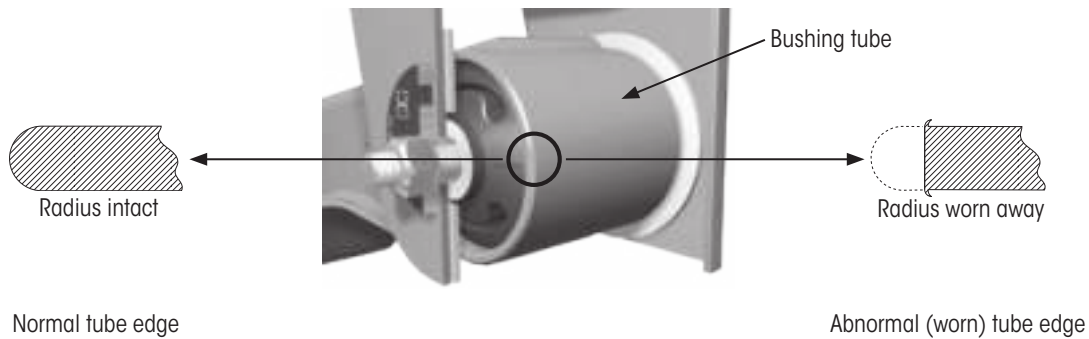

Figure 8: Bushing tube edge wear (wide bushing)
4. **Inspect** bushing tube condition. Some wear (polished metal) on the edge of the bushing tube is considered normal (Figure 8) due to the pivoting motion inherent with this connection. Missing metal where the bushing tube's radius edge has been worn away is considered abnormal. If this type of wear is present, determine how much wear has occurred according to specifications in Table 2.